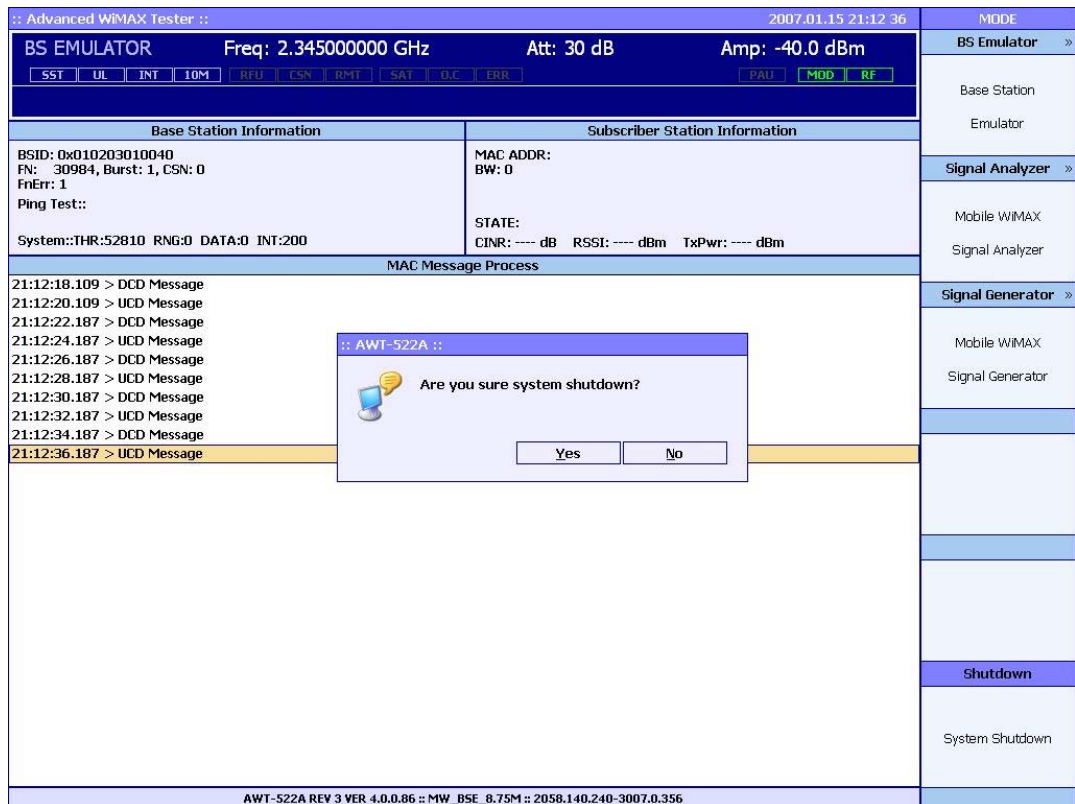

Figure 10 Terminate the E6651A Test Set program
- 1 **Terminate the program:** Select **Mode > shutdown**. The dialog box shown in Figure 10 is displayed.